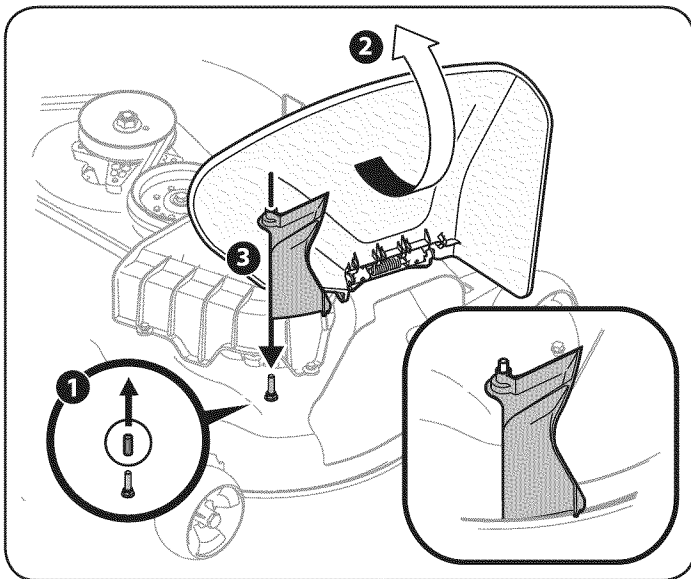

Figure 21
2. Remove the deck pin rubber protective cap, 1 in Figure 21.
3. Raise the chute deflector (2 in Figure 21) on the deck and hold it while you install the (731-10133) chute adapter(3), included in hardware pack 689-00341, onto the deck as shown in Figure 21.